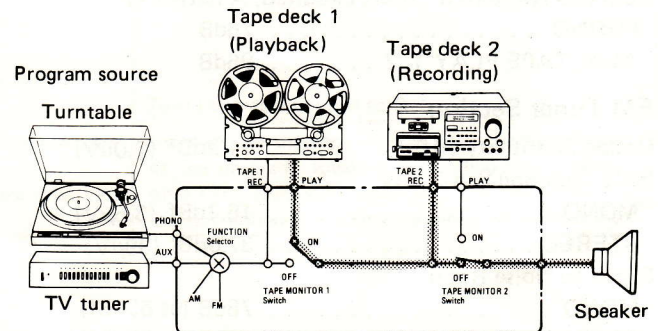

Fig. 14
1. As shown in Fig. 14, connect the tape decks to the receiver's TAPE 1 and TAPE 2 jacks.